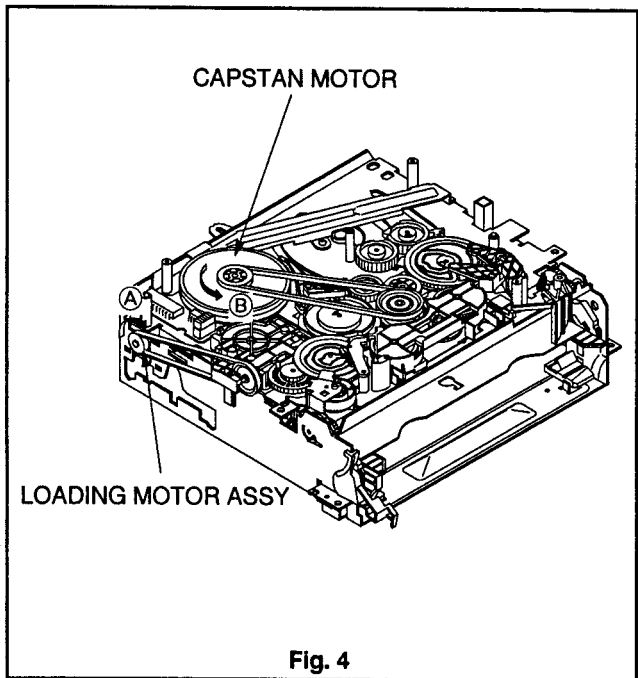

Fig. 4
3. If the TAPE GUIDE ASSY (TU) and TAPE GUIDE ASSY (SP) are in the Tape unlocked position, turn the LOADING MOTOR ASSY shown in Fig. 4 in the direction shown by arrow (A) and move the TAPE GUIDE ASSY (TU) and TAPE GUIDE ASSY (SP) fully in the unloaded position.
4. Turn the CAPSTAN MOTOR shown in Fig. 4 in the direction shown by arrow (B) to wind the Tape up within the Cassette.
5. Turn the LOADING MOTOR ASSY shown in Fig. 4 in the direction shown by arrow (A) to eject the Tape.